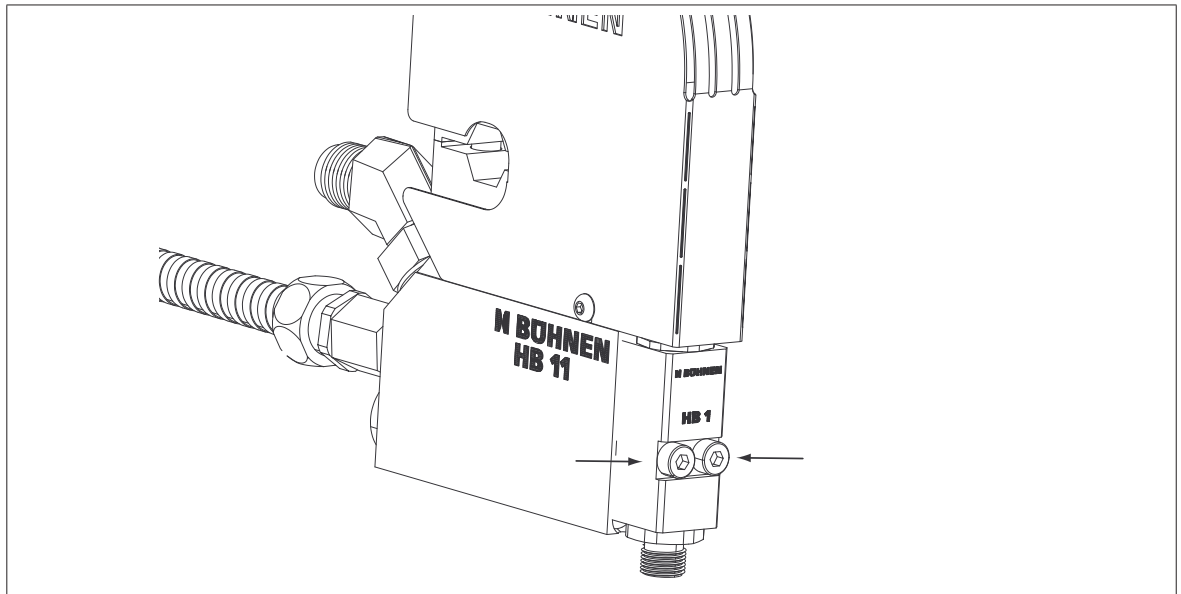

Figure 4: Replacement of module HB 1
3. Release the screws (M4) shown in *Figure 4* using an Allen key (3 mm).